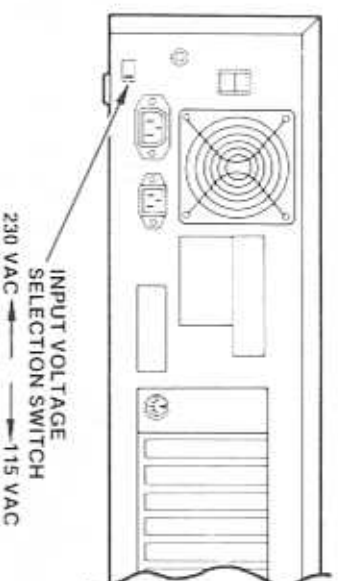

Figure 3-2. Setting the System Unit Voltage Switch
4. Turn to the system unit rear panel and set the system unit for the correct input voltage (Figure 3-2). Using a flat-blade screwdriver, push the input voltage selection switch to the right (the 115 VAC position) for 110 through 120 VAC input voltage. Push the selection switch to the left (the 230 VAC position) for 220 through 240 VAC input voltage. (Be sure to remove the reminder sticker that is beside this switch.)